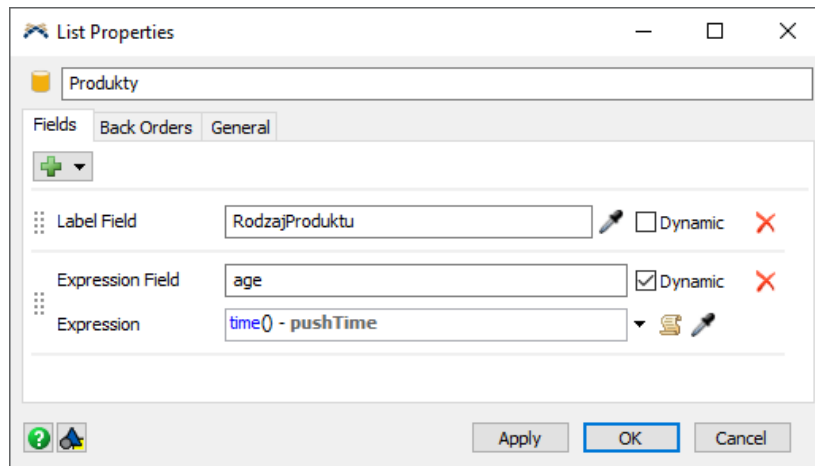

Fig. 2. *Products* list settings
*Products* list will be created in the model with the settings as in Figure 2.